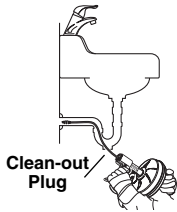

Figure 5
- For other sinks a clean out plug or trap may need to be removed (See *Figure 5*). Be sure to place a container under the clean out or trap to catch any water that may come out.